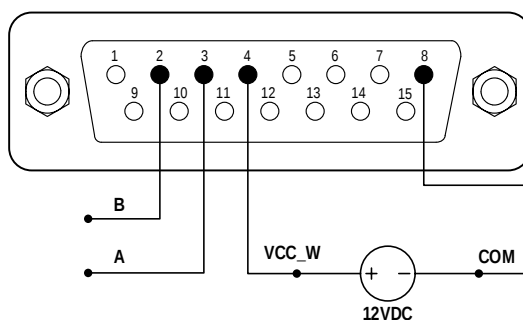

Figure 43. RS485 MODBUS Wiring
- 1) Power off the device. Wire the DB15 connector as shown in Figure 43, and connect it to the DB15 port on the rear of the pump. An external DC power source is recommended to avoid electrical interference.